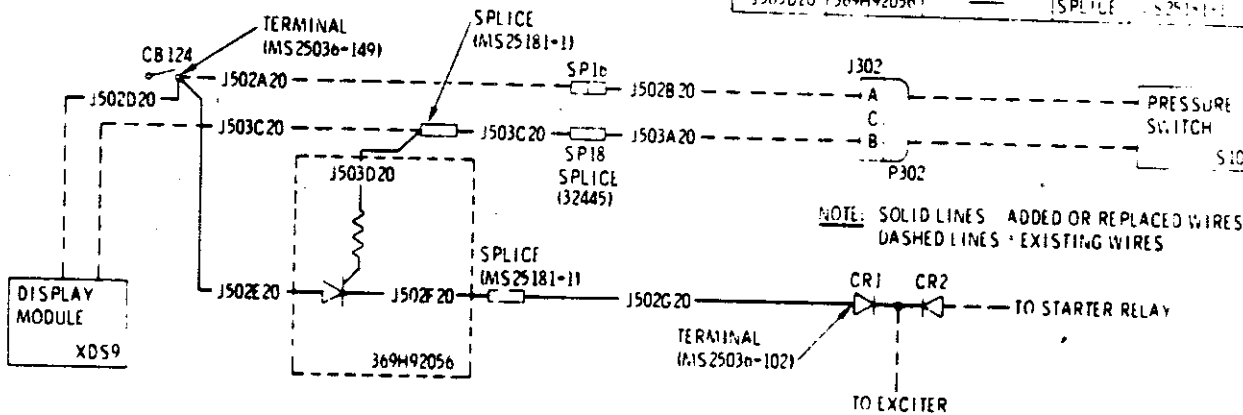

Figure 1. Installation of SCR Assembly - Auto-Reignition Modification Kit PN M50036
- d. Drill two 0.169/0.177 inch diameter holes in centerbeam assembly at dimensions shown in Figure 1.
- (1) Open engine access doors and disconnect existing wire No. J503A20 and wire No. J503B20 from terminal CR1-1 of diode isolator assembly on starter relay. Disconnect other end of wire No. J503B20 from splice (to existing wire No. J503C20) in engine compartment. Discard wire No. J503B20.
- (2) Splice existing wire No. J503A20 (from pressure switch connector J302) to knife splice SP18 at end of existing wire No. J503C20 (from display module) in engine compartment. Use 32445 knife splice.
- (3) Route new wire No. J502G20 through right-hand conduit and connect to terminal CR1-1 of diode isolator assembly using MS25036-102 terminal lug; splice other end of wire to wire No. J502F20 (from SCR assembly) using MS25181-1 splice.
- (4) Connect wire No. J502E20 (from SCR assembly) to switch/circuit breaker CB124-2 in switch panel assembly, using MS25036-149 terminal lug.
- (5) Splice wire No. J503D20 (from SCR assembly) to existing wire No. J503C20 (from display module). Use MS25181-1 splice.